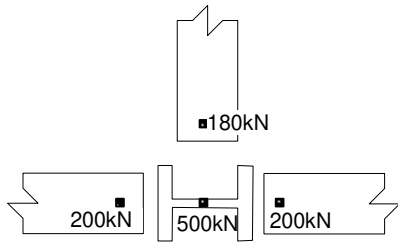

Fig. 6
7. Figure 6 shows the plan of a loaded column of actual length 3.7m carrying characteristic loads from three beams. It is fixed in position and direction at both ends. Select a suitable UC section for the column in grade S275 steel and check its adequacy (20 marks)